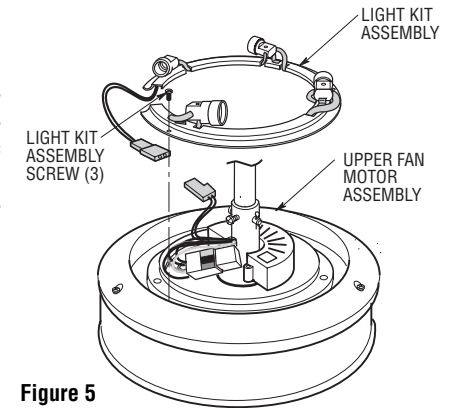

Figure 5
2. Position the light kit assembly so that the opening of the light kit assembly slides through the downrod. Align the mounting holes of the light kit assembly to the motor assembly (Figure 5).
3. Install the light kit assembly to the motor assembly using three light kit assembly mounting screws (Figure 5).
4. Securely connect the light kit assembly connector to the motor assembly connector (Figure 5).